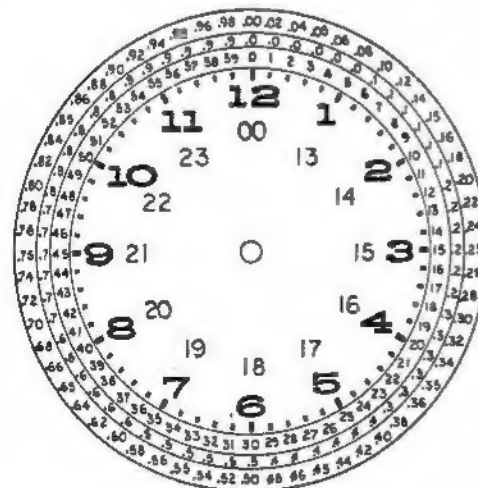

Figure 3
4. Rotate type wheels upward, one at a time, with a pointed tool (such as a ballpoint pen). Move only the ratchet-edge of the wheel to avoid damage to type characters. Align wheels to center position (Figure 3).